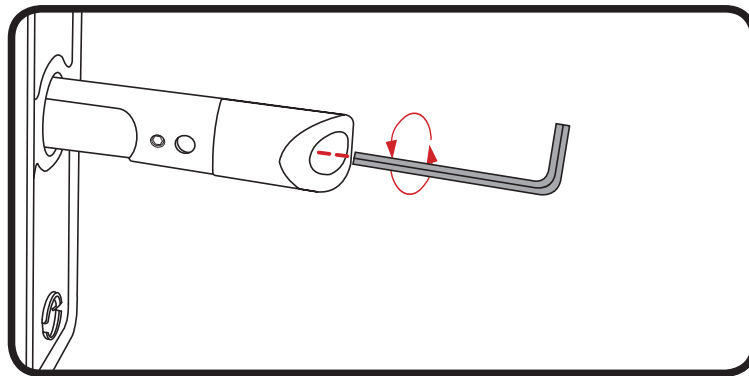

Fig 1
1. Loosen the Hex screw with the Hex key (Fig 1) until the end of the latch bolt can be rotated.